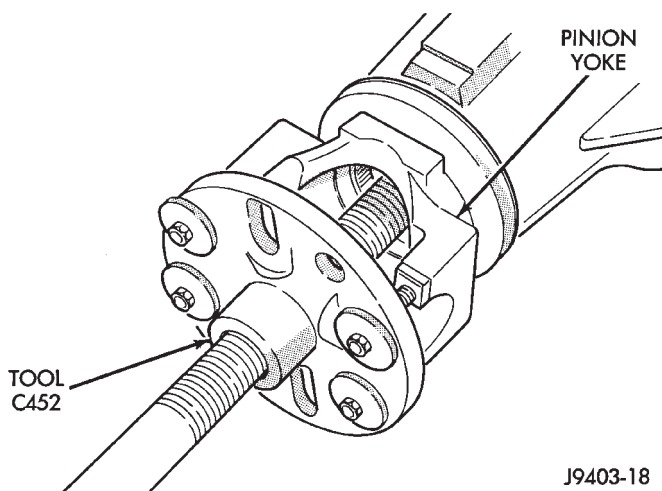

Fig. 14 Yoke Removal
- (1) Raise and support the vehicle.
- (2) Scribe a mark on the universal joint, pinion yoke, and pinion shaft for reference.
- (3) Disconnect the propeller shaft from the pinion yoke. Secure the propeller shaft in an upright position to prevent damage to the rear universal joint.
- (4) Remove the wheel and tire assemblies.
- (5) Remove the brake drums to prevent any drag. The drag may cause a false bearing rotating torque measurement.
- (6) Rotate the pinion yoke three or four times.
- (7) Measure the amount of torque necessary to rotate the pinion gear with a (in. lbs.) dial-type torque wrench. Record the torque reading for installation reference.
- (8) Hold the yoke with Wrench 6719. Remove the pinion shaft nut and washer.
- (9) Remove the yoke with Remover C-452 (Fig. 14).